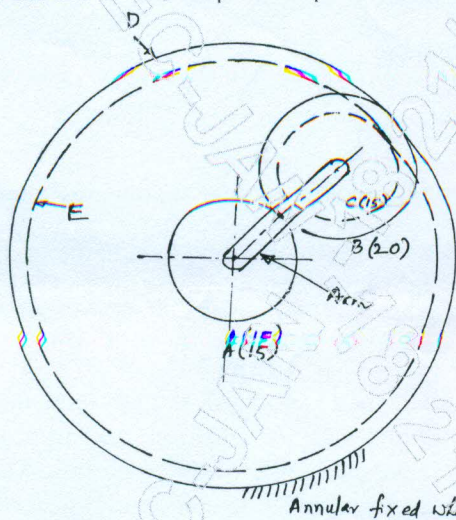

Fig.Q8(b)
b. Fig.Q8(b) shows an epicyclic gear train. Pinion A has 15 teeth and is rigidly fixed to the motor shaft. The wheel B has 20 teeth and gears with A and also with the annular fixed wheel D. Pinion C has 15 teeth and is integral with B (B, C being a compound gear wheel), gear C meshes with annular wheel E, which is keyed to the machine shaft. The arm rotates about the same shaft on which A is fixed, and carries the compound wheel B, C. If the motor runs at 1000 rpm, find the speed of the machine shaft. Find the torque exerted on the machine shaft if the motor develops a torque of 100 Nm.